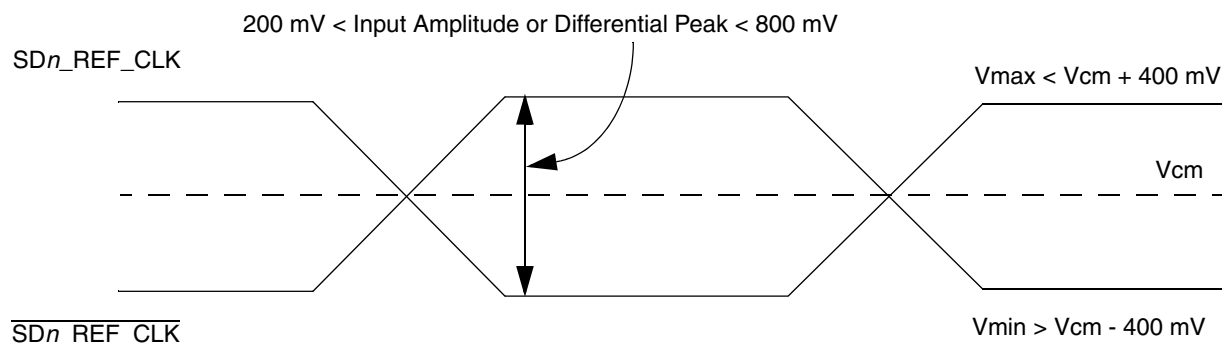

Figure 43. Differential Reference Clock Input DC Requirements (External AC-Coupled)
- For **external AC-coupled** connection, there is no common mode voltage requirement for the clock driver. Since the external AC-coupling capacitor blocks the DC level, the clock driver and the SerDes reference clock receiver operate in different command mode voltages. The SerDes reference clock receiver in this connection scheme has its common mode voltage set to SGND_SRDSn. Each signal wire of the differential inputs is allowed to swing below and above the command mode voltage (SGND_SRDSn). Figure 43 shows the SerDes reference clock input requirement for AC-coupled connection scheme.